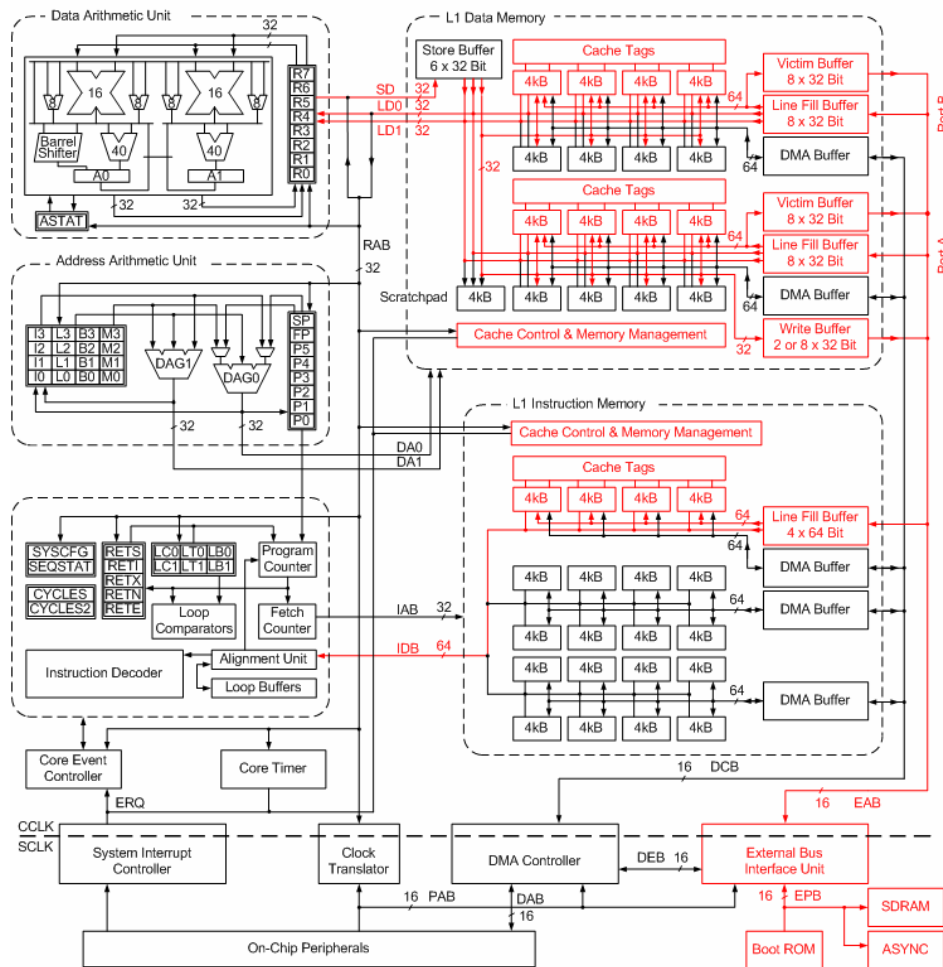

Figure 1. ADSP-BF533 block diagram
- *Victim*: A dirty cache line that must be written to memory before it can be replaced to free space for a cache line allocation (see *victim buffer* in Figure 1).